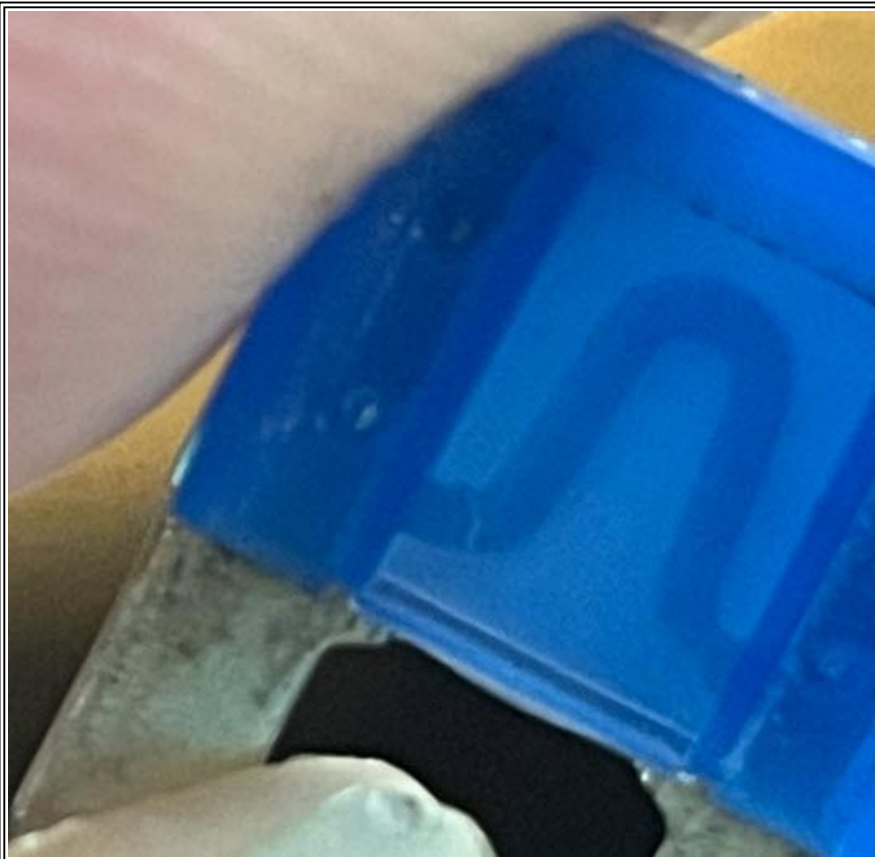

Figure 1: Fuse Cracked without the Typical Signs of a Circuit Fault
- The aftertreatment PDM F2 fuse can crack internally due to fatigue (Figure 1)